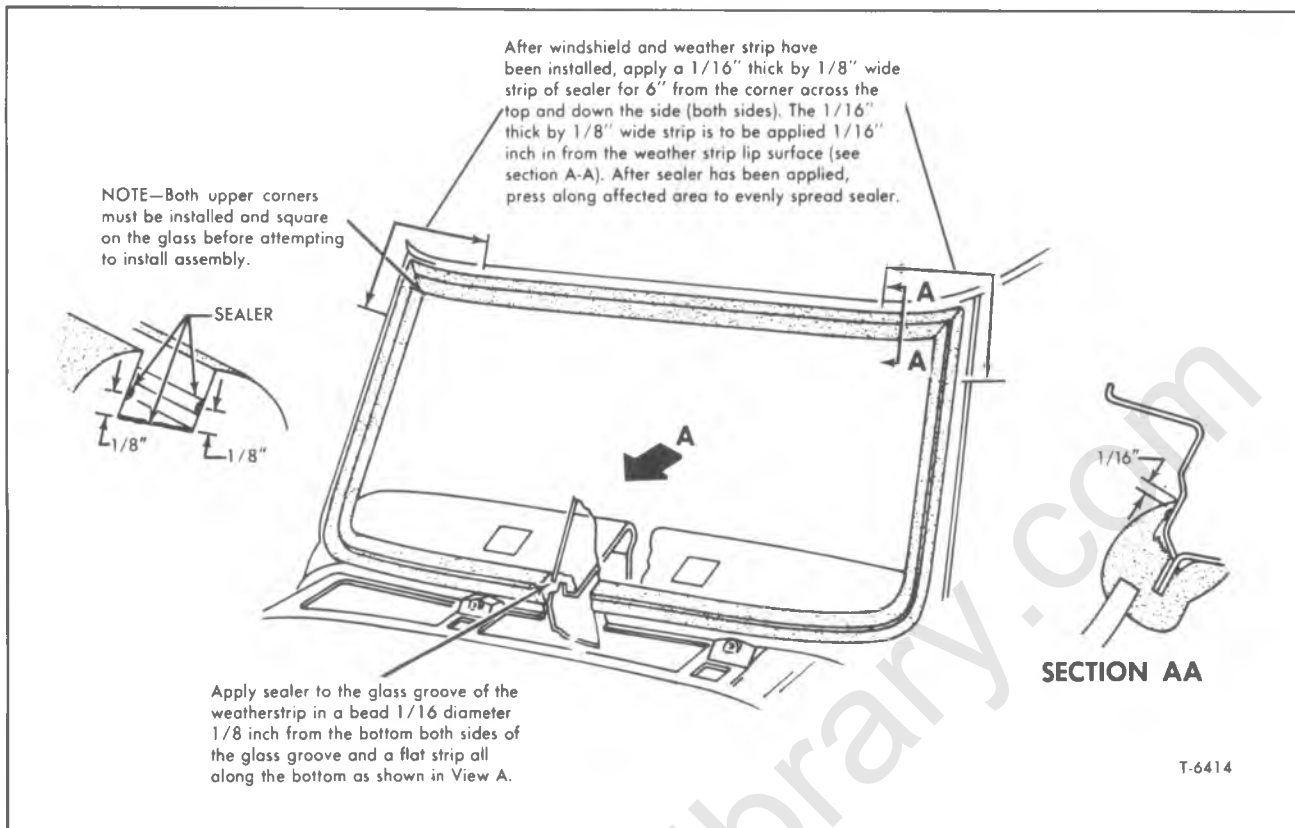

Figure 3—Windshield Glass, Weatherstrip, and Sealing (Conv. Cab Model)
8. Recheck windshield in its opening and if satisfactory proceed as follows. Note figure 3 before proceeding.
1. Apply sealer to areas indicated in figure 3 and install on glass. Centralize weatherstrip around edge of glass to avoid cocking of square corners during assembly.
weatherstrip in areas noted in figure 3.